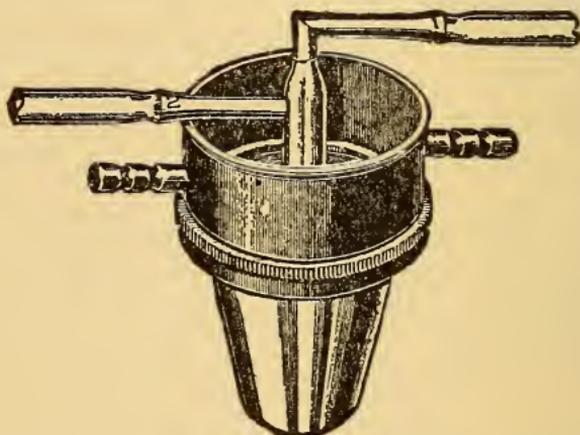

FIG. 38. PLATINUM COMBUSTION CRUCIBLE
*Its Uses.*—Since it will not melt in a Bunsen flame it is very useful to the chemist. In Russia it is used for coinage, it is in vogue for jewelry and is used by dentists and photographers. See Fig. 38. It has the same expansion as glass and when alloyed with *iridium* is used for international standards of length and weight. It is worth twice as much as gold (Au).